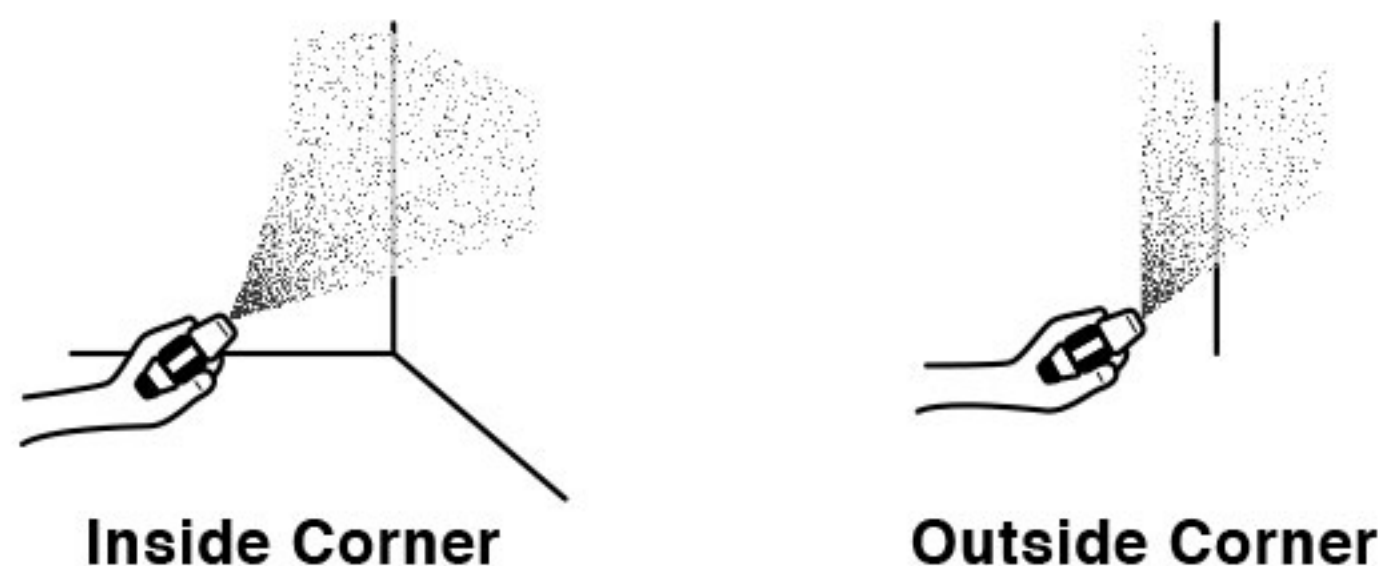

Figure 7
8. To spray “inside” and “outside” corners, aim the spray at the centre of the corner, so that the pattern is evenly divided. (See Figure 7)